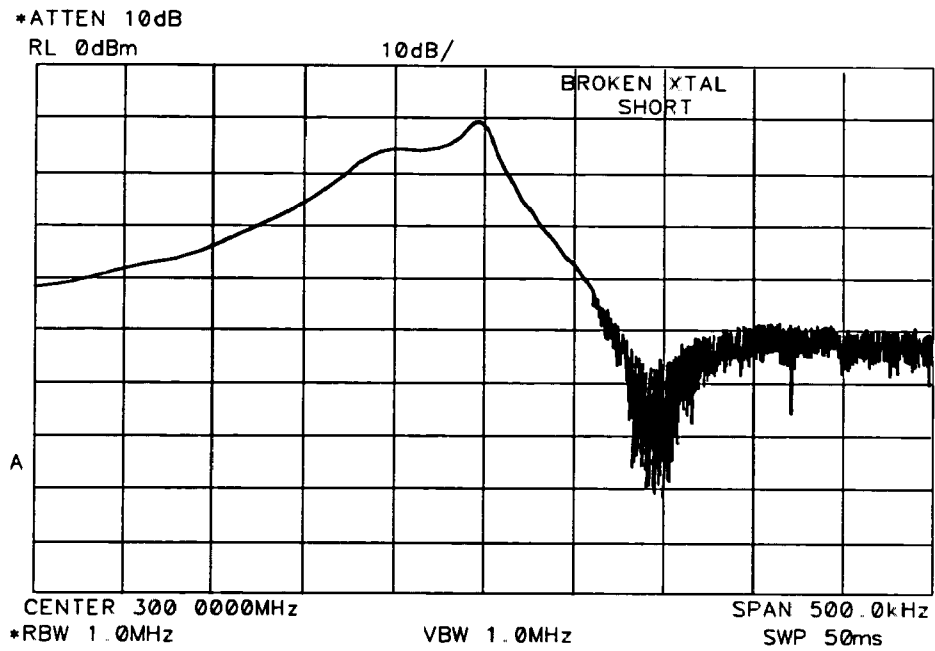

Figure 9-13. Faulty Crystal Short
4. A trace similar to Figure 9-13 indicates a crystal short failure.